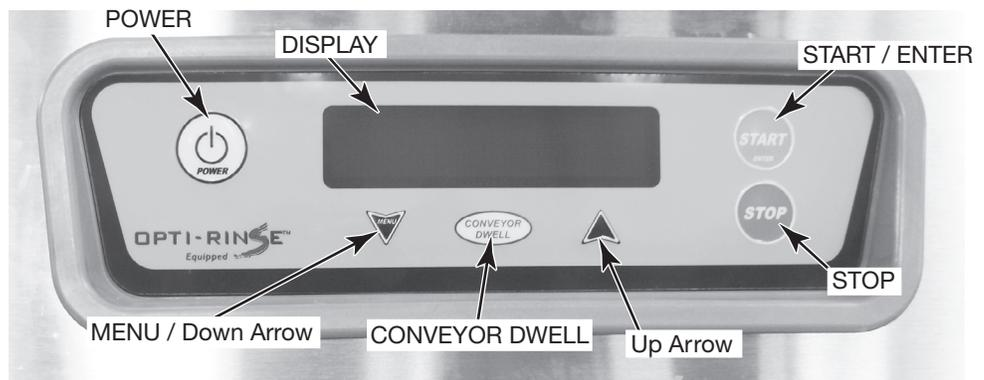

Fig. 28
The controls are mounted on top of the dishwasher. The Keypad and Display are mounted in front of the control box (Fig. 28).
Close all doors. To begin filling after the machine is ready, press the POWER key (Fig. 28).
5. Press the POWER key on the keypad (Fig. 28). Dishwasher will fill automatically (refer to Filling the Dishwasher, this page). After the tank has filled, the burner will ignite if heat is required. The ignition system includes a 15-second pre-purge period before ignition occurs.
6. If the dishwasher will not operate, press the POWER key on the keypad (Fig. 28) and turn the manual gas valve Off. Call your local Hobart service office or gas supplier.
After the machine has filled, start the pumps by pushing the START / ENTER key on the keypad (Fig. 28) or by inserting a rack into the machine.
The conveyor dwell feature, standard, allows the operator to stop the conveyor in order to wash heavily soiled dishes for a longer time. When the dish rack reaches the wash chamber, push the CONVEYOR DWELL key on the keypad (Fig. 28) to momentarily stop the conveyor. To restart the conveyor, press either the START / ENTER or the CONVEYOR DWELL keys on the keypad (Fig. 28).
If the rack jams or if the load becomes excessive, an overload mechanism shuts off the conveyor drive motor and 'Clear Conveyor Jam' displays. Open the doors and remove the jam. After the jam is cleared, close the doors and push the START / ENTER key on the keypad (Fig. 28) to restart the dishwasher.
All tank temperatures are shown on the Display (Fig. 28) when the machine is in operation. The Final Rinse temperature displays --- until a rack is in the rinse zone; then, the Final Rinse water temperature displays. After the ware exits the rinse zone, the Final Rinse temperature display returns to --- .
To conserve energy, if no rack enters the machine for a preset amount of time, the Auto-Timer counts down and the pumps and conveyor shut off. Tanks continue to heat, and tank temperatures display. To resume operation, insert a rack or press the START / ENTER key on the keypad (Fig. 28).
After a period of machine inactivity, the control initiates Energy Saver Mode (ESM): All warewasher components are turned off, and the display on the control dims, displaying 'Energy Saver Active / Press STOP to Exit'. To exit Energy Saver Mode, press the STOP key (Fig. 28). You may press the POWER key to completely turn the machine off. The period of machine inactivity prior to ESM can be set from 1 to 6 hours in the Parameters Menu; 2 hours is the factory setting. Refer to page 34.
1. Press the POWER key on the keypad to turn the machine Off (Fig. 28).
Deliming instructions: Follow instructions on the delime-chemical container. During deliming, machine should be on with pumps running, but the conveyor can be idle. Press the CONVEYOR DWELL key on the keypad (Fig. 28) to turn off the conveyor motor and conveyor during deliming.